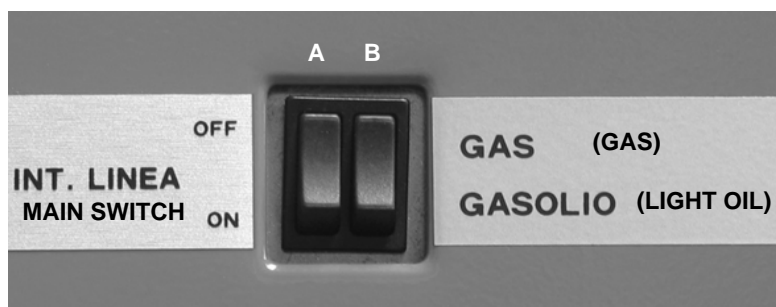

Fig. 25
- Choose the fuel by the related switch (B in Fig. 25), placed on the burner cover.
- Turn on the power supply by the main switch (A in Fig. 25).